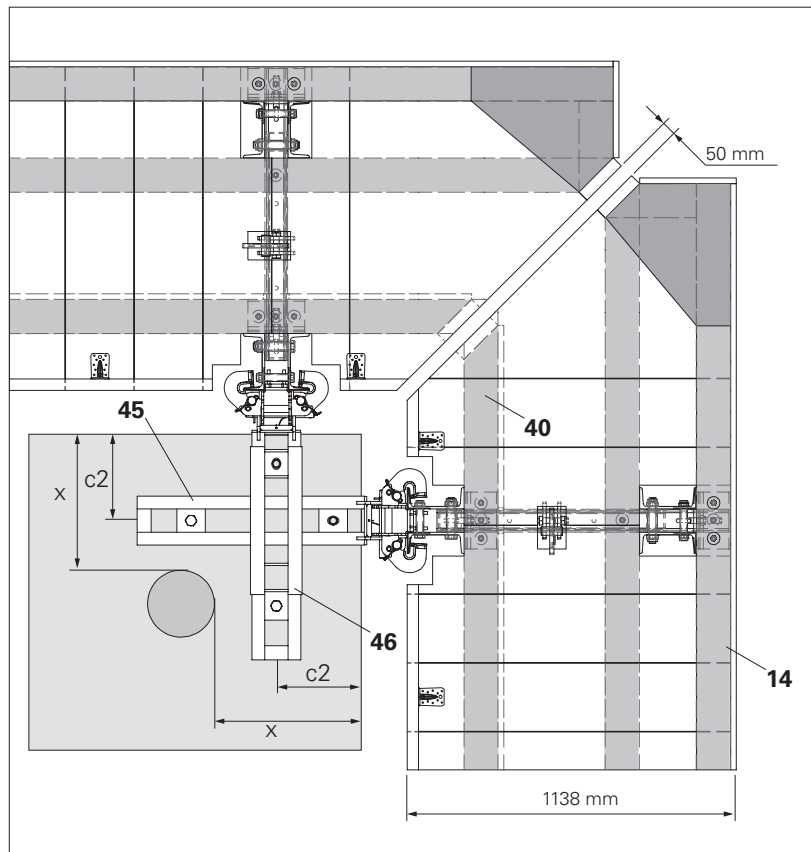

Fig. B3.03
The work platform is mitred accordingly. Push the enclosure beam (14) and platform beam (40) up to the mitre. Assemble platform decking using multi-layer plywood sheeting in the mitred area. Cover the mitre gap. (Fig. B3.03)